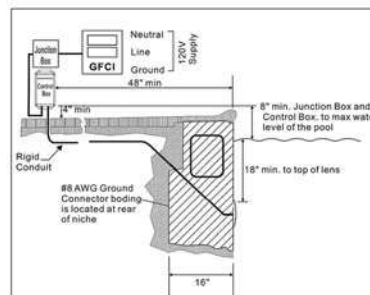

Figure 2
2. Drill 1 hole on the flat place you intend to mount the pool light, use 1 expansion screw to fix the light, treat the light with silicon around the light. (you may need to cut off the bolt that is for wet niche install.) See Figure 2